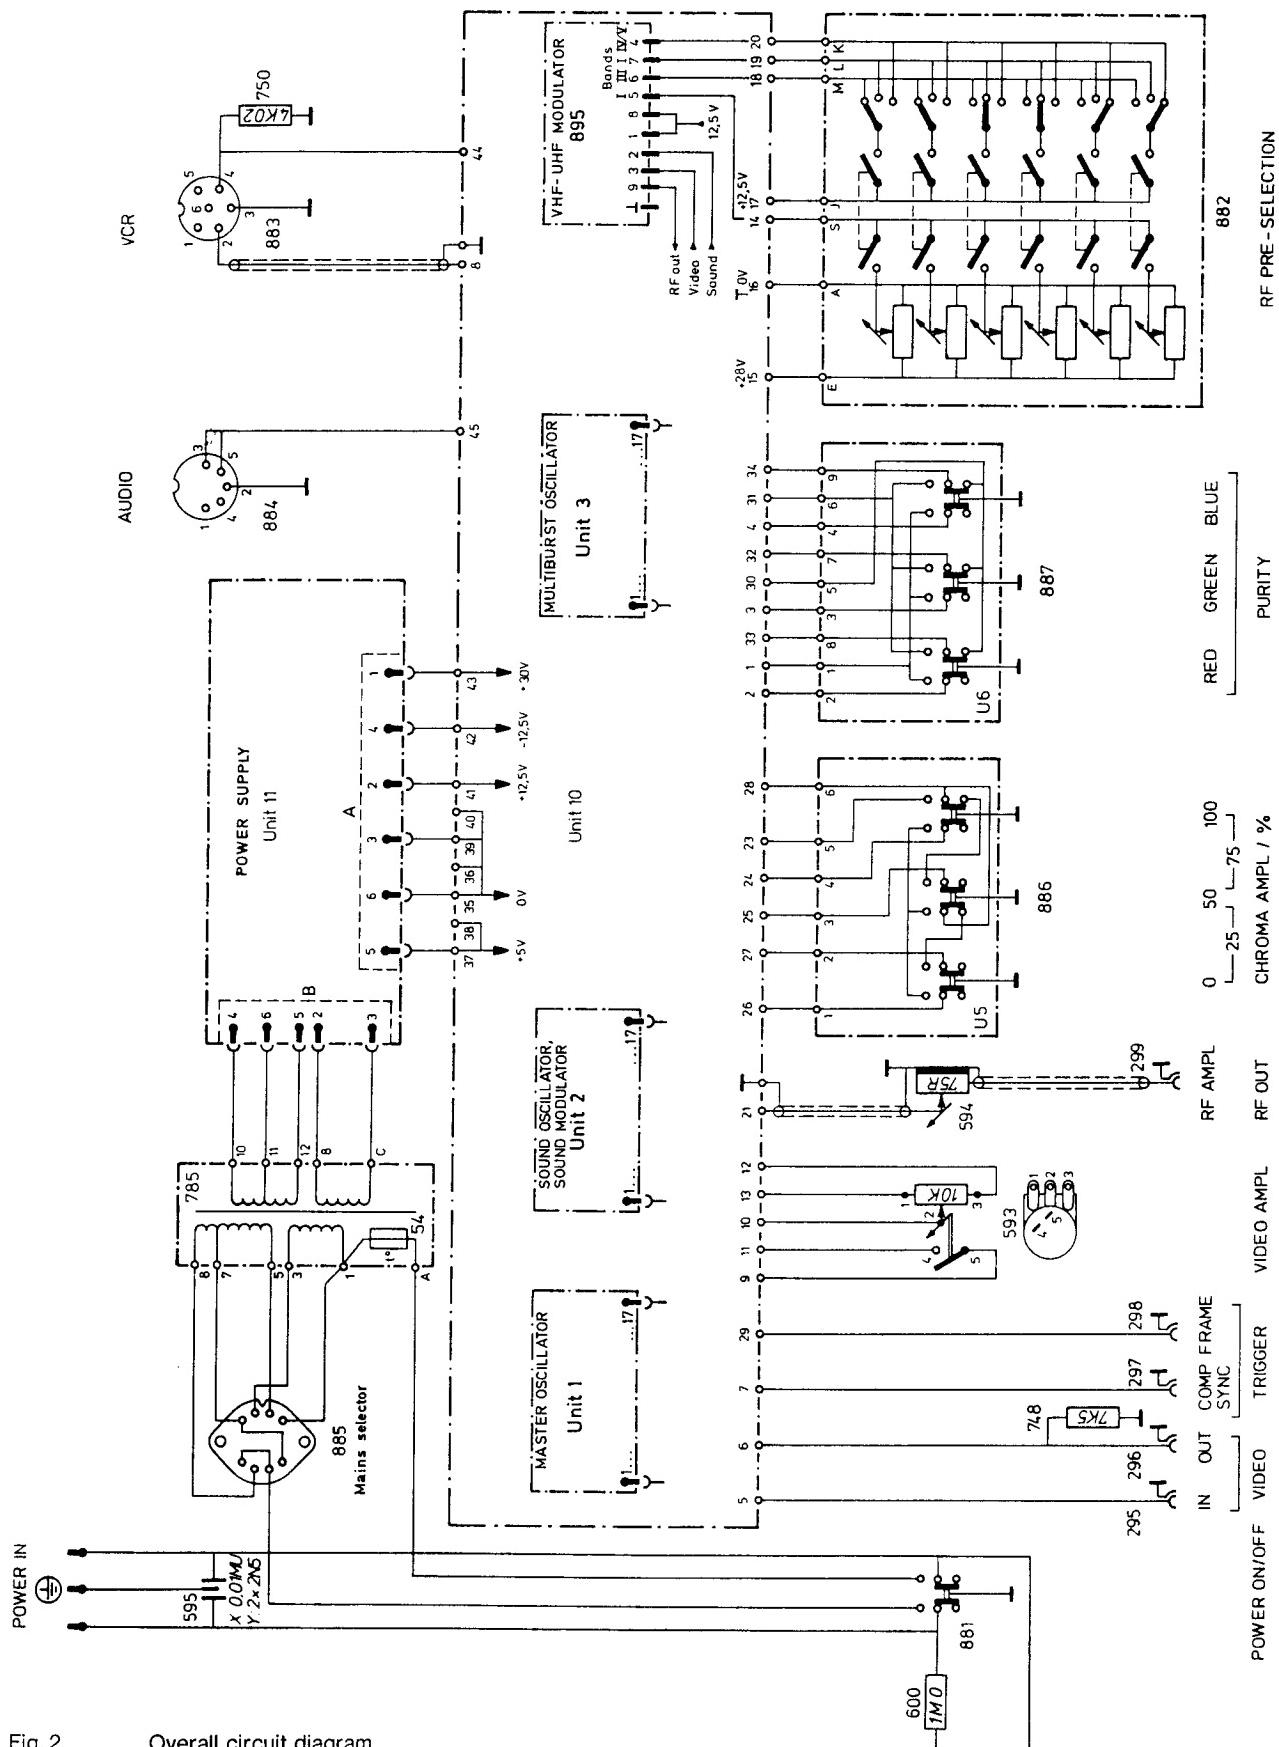

Fig. 2
2.1.4. Overall circuit diagram, fig. 2.
The connections and terminations of the main unit U10, the power supply unit 11, and the controls and sockets of the sub-units of unit 10 are shown in the figure 2. The complete single circuit diagrams are shown in the figures 24, 26, 28, 30, 32 and 34.